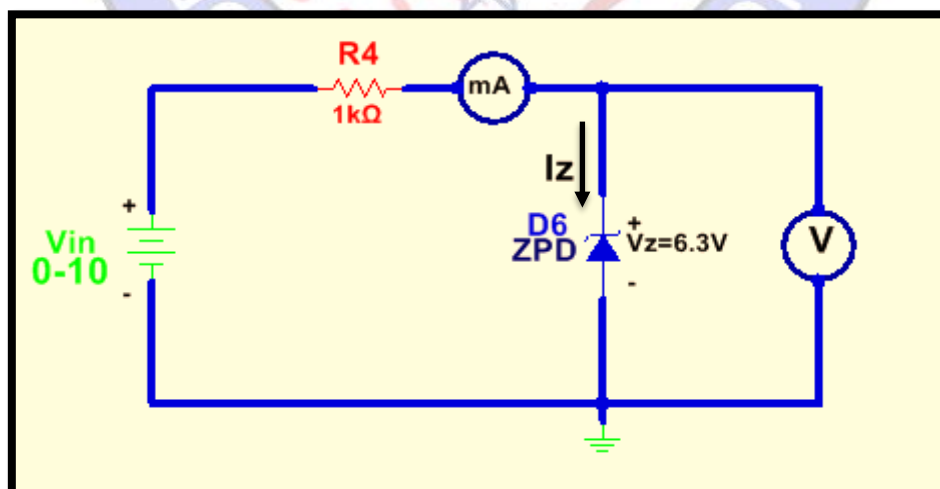

Figure 7: Practical Circuit Used to Obtain the Characteristics of the Zener Diode
1. Connect the zener diode test circuit shown in Fig.7. Increase the input voltage gradually in several steps from 0 to 15V, and record  $V_Z$  and  $I_Z$  according to Table 1.
Table 1: Recorded Data for the Circuit of Figure 7